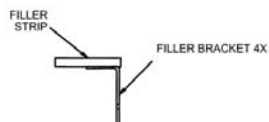

Figure 5.1
- 5.2 Install the filler strip brackets on the filler strips using the filler strip screws provided. (Fig 5.1)